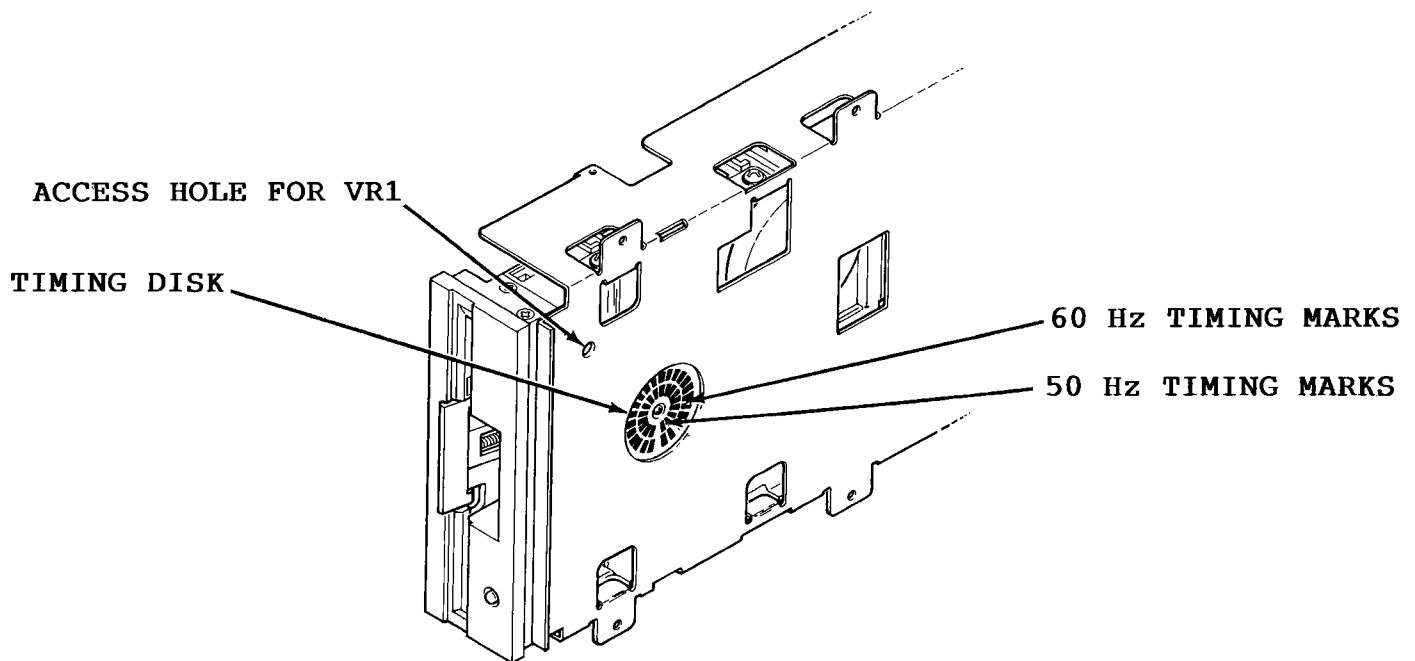

Figure 5-1. VIC-1541 Prepared for Calibration
6. Place disk drive on left-hand side. Use a thin book or magazine to prop up drive. (Refer to Figure 5-1).
8. Plug timing strobe light into AC outlet. Position light near timing disk (Refer to Figure 5-1).
10. Adjust VR1 (Refer to Figure 5-1) until timing disk appears to stop.